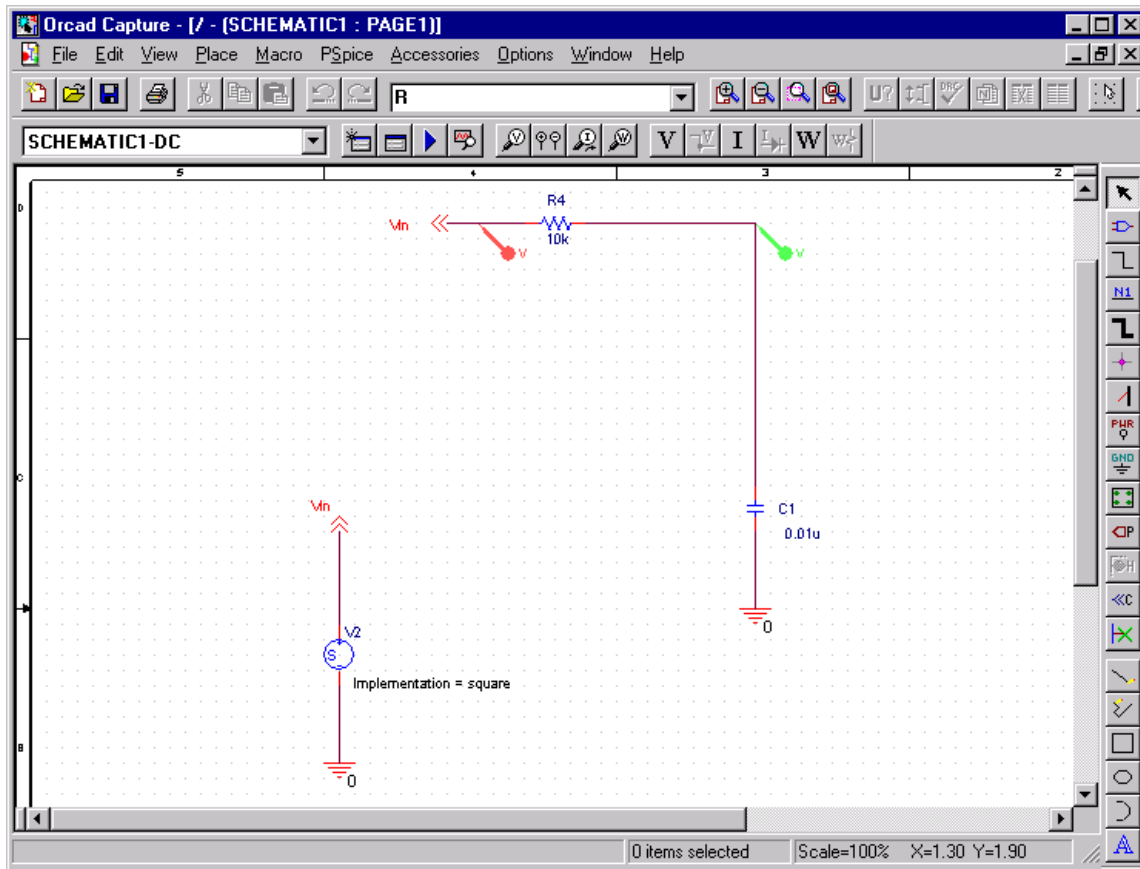

Fig 2: Transient analysis on a simple RC-circuit.
5. Continue naming the remaining parts until your schematic looks like Fig. 2 on page 2.
This example shows how to run a transient analysis on the RC circuit of lab 2.1. This requires adding a time-domain voltage stimulus as shown in Fig. 2.
2. Build the circuit as shown in Fig. 2 by using the techniques discussed in section 2.
6. Once you are done with building the circuit of Fig. 2, choose Save to save the design.